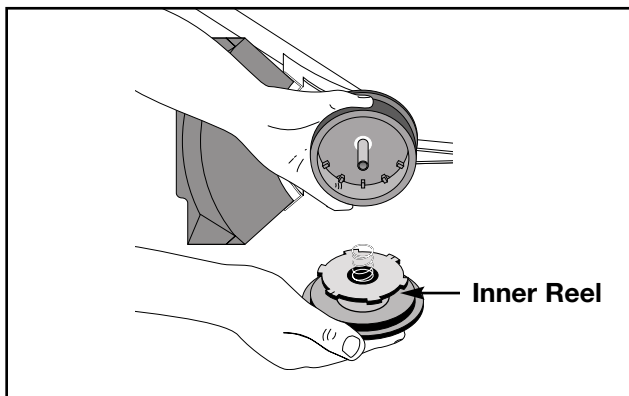

Fig. 27
2. Remove the inner reel (Fig. 27).